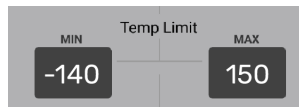

Figure 41 - Temp Limit Buttons
- **Temp Limit buttons** — The **MIN** button toggles to set or clear (erase) the minimum temporary limit. The **MAX** button toggles to set or clear the maximum temporary limit. See **Figure 41**.